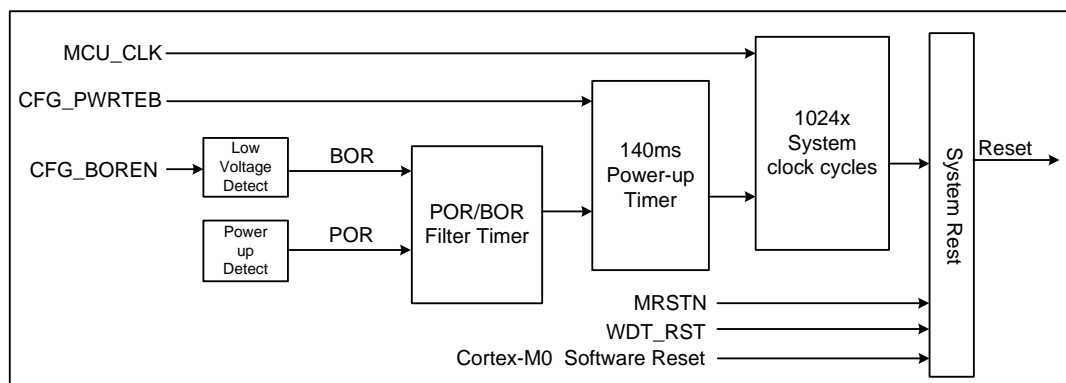

Figure 2-2 System Reset Block Diagram
- When the voltage has been stabilized after power-on, if an external reset, WDT overflow reset or software reset occurred, the device would immediately exit the reset state once the reset condition expires, and then it would resume normal operation, regardless of all timers in Figure 2-2.